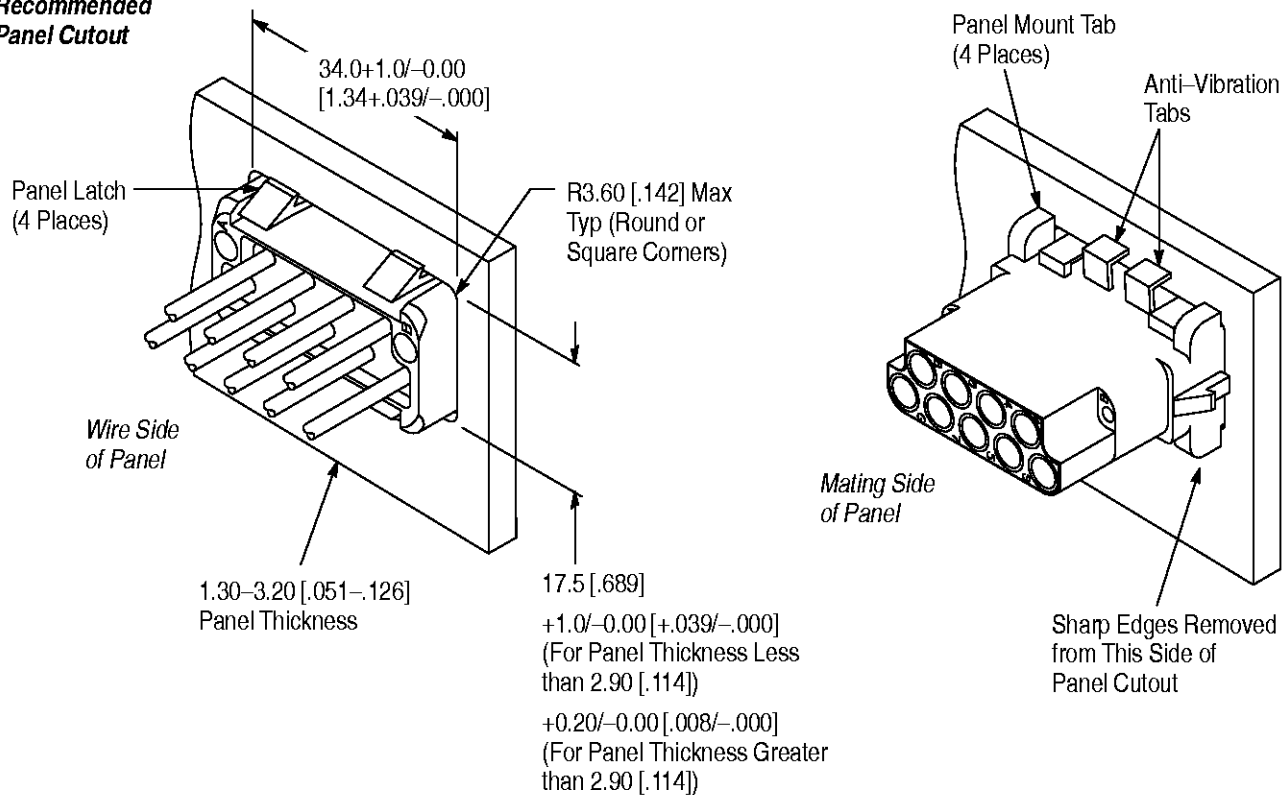

Figure 9
5. PANEL MOUNTING (Figure 9)
1. Make a cutout in the panel using the dimensions provided in Figure 9.